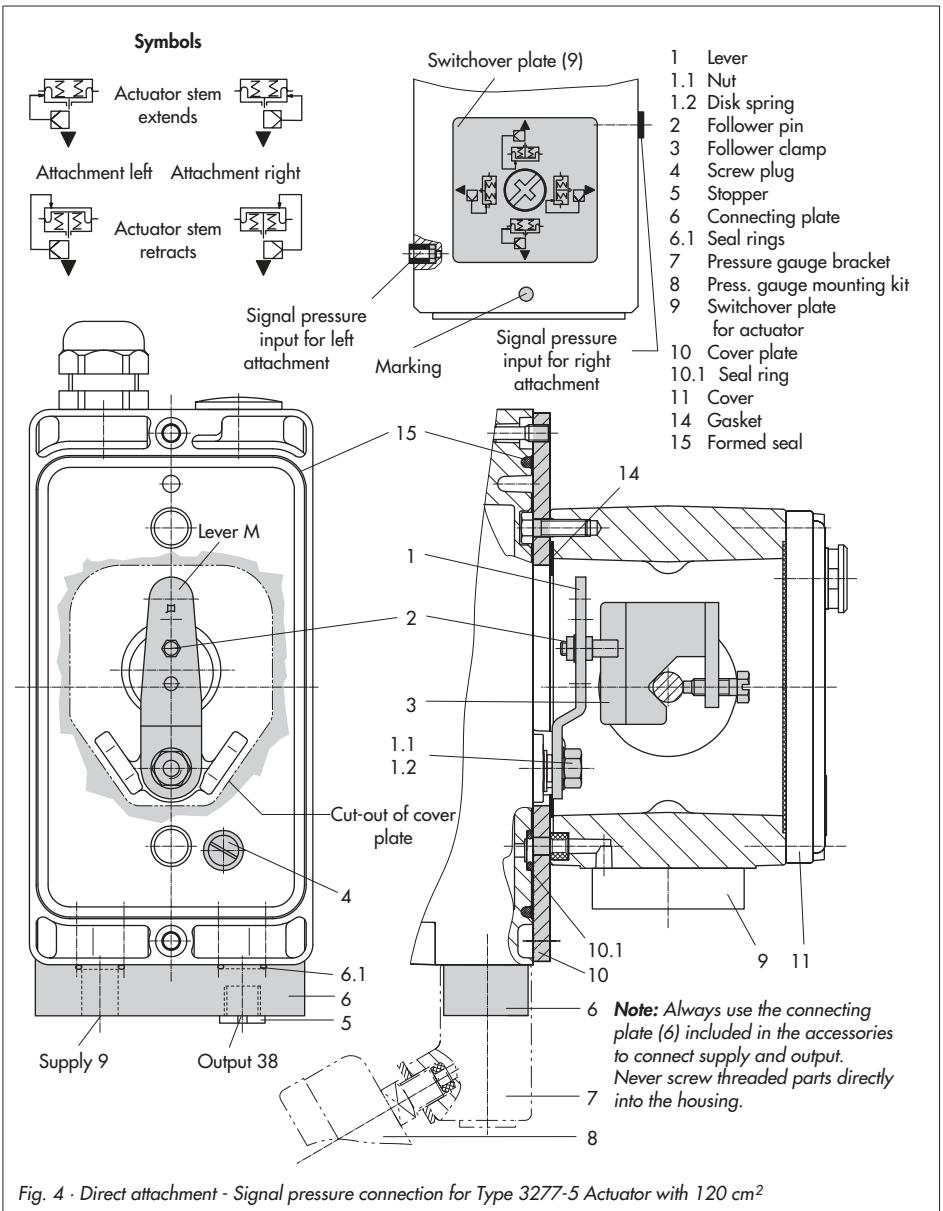

Fig. 4 · Direct attachment - Signal pressure connection for Type 3277-5 Actuator with 120 cm2
1. Mount connecting plate (6) or pressure gauge bracket (7) with pressure gauges onto the positioner, making sure both seal rings (6.1) are seated properly.
2. Remove screw plug (4) on the back of the positioner and close the signal pressure output "Output 38" on the connecting plate (6) or on the pressure gauge bracket (7) with the stopper (5) included in the accessories.
3. Place follower clamp (3) on the actuator stem, align and screw tight so that the mounting screw is located in the groove of the actuator stem.
4. Mount cover plate (10) with narrow side of the cut-out opening (Fig. 4, left) point-